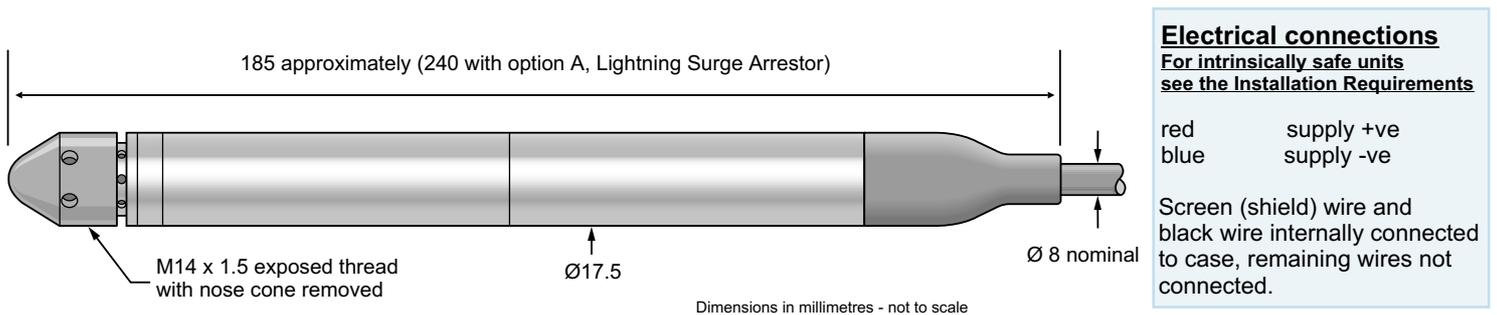

Figure 1 - PTX 1830 Dimensions and Details
7. Cut the surplus cable. Strip back the wires as detailed in Figure 1 and connect the wires at the termination device.